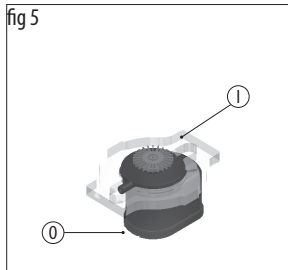

fig 6
- Connect all the above by inserting the shaft (M) in the impeller opening (L) and positioning the foaming chamber (G) –fig.6.